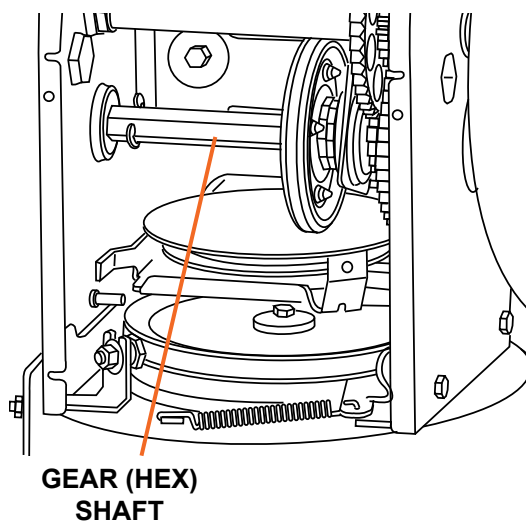

Figure 14
2. Apply a light coating of an all-weather multi-purpose grease to the hex shaft (see Figure 14).